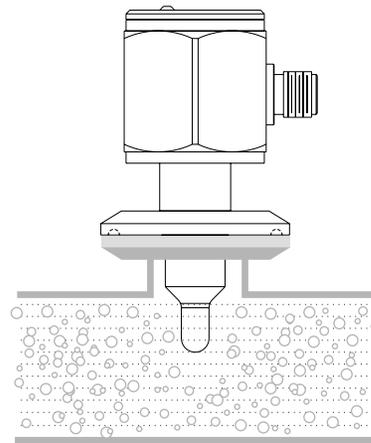

Fig. 2
- (2). Liquid inside the pipe must be bubble-free to ensure alarm working properly. (See Fig. 2).